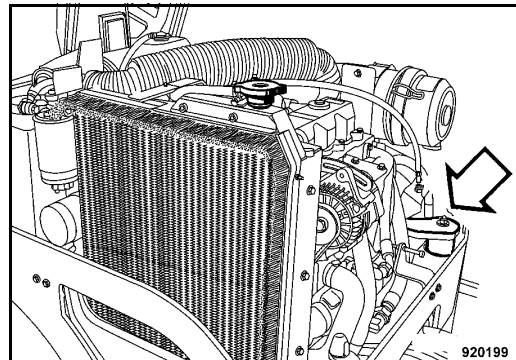

Fig. 166
- Check the condition and tight fit of the engine pillow blocks (Fig. 166).